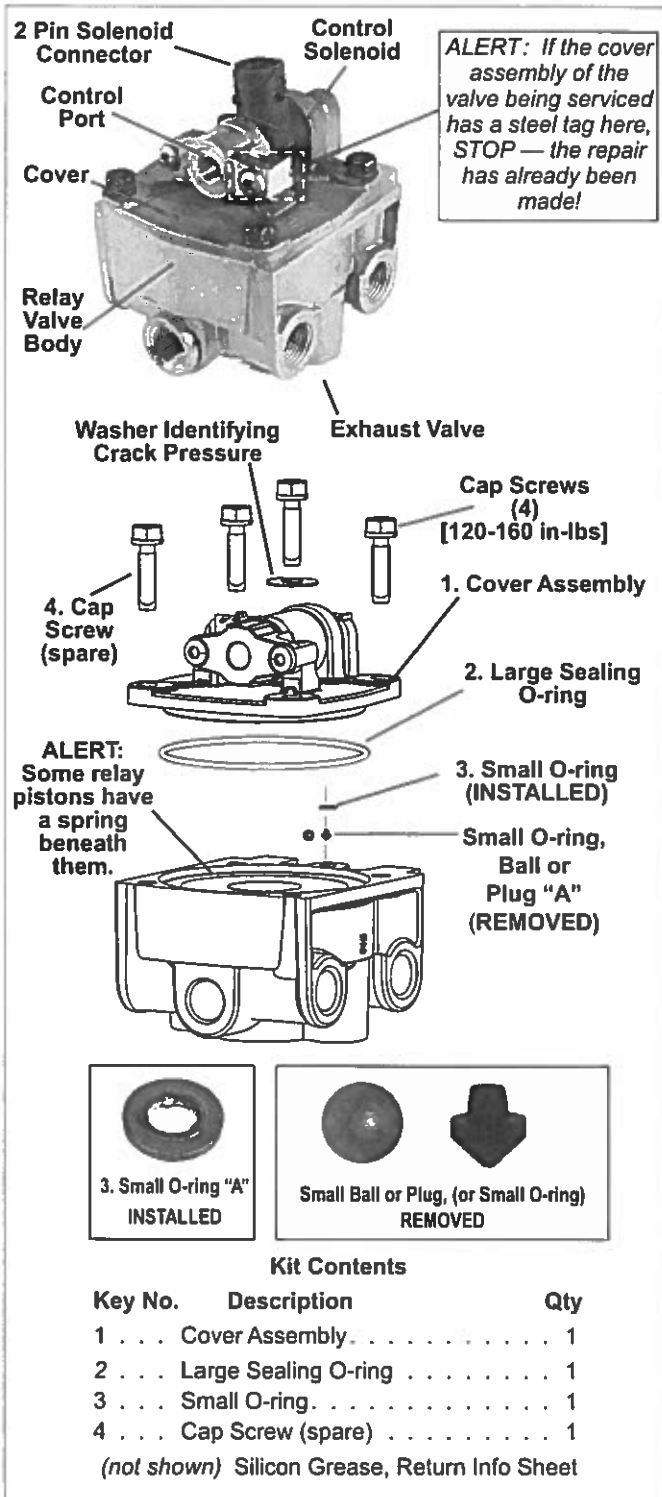

FIGURE 1 - BENDIX® ATR-6™ TRACTION RELAY VALVE
1. Verify that the Bendix® ATR-6™ valve does not have the steel tag (See Figure 1) that indicates it has already been serviced.
6. • **Remove and discard the ball or plug** ("A" in Figure 1) from between the cover and the valve, OR,
8. Grease and install the new large sealing O-ring (2) and the small O-ring (3) supplied, into the NEW valve cover.